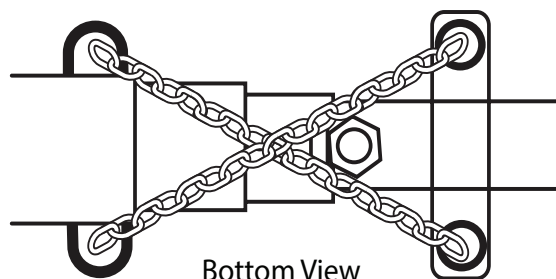

Figure 4-2. Safety Chains
5. Connect the safety chains to the tow vehicle in criss-cross fashion to the cradle draw bar in case of accidental disconnect. See Figure 4-2.